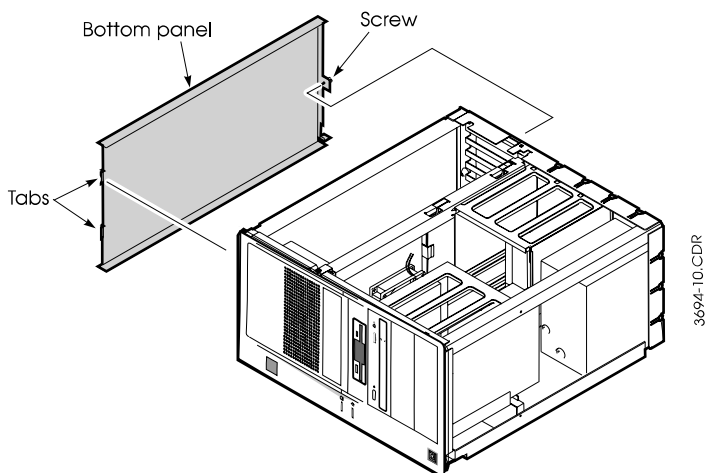

Figure 10. Removing the Bottom Panel
2. Remove the screw that holds the bottom panel in place (Figure 10).